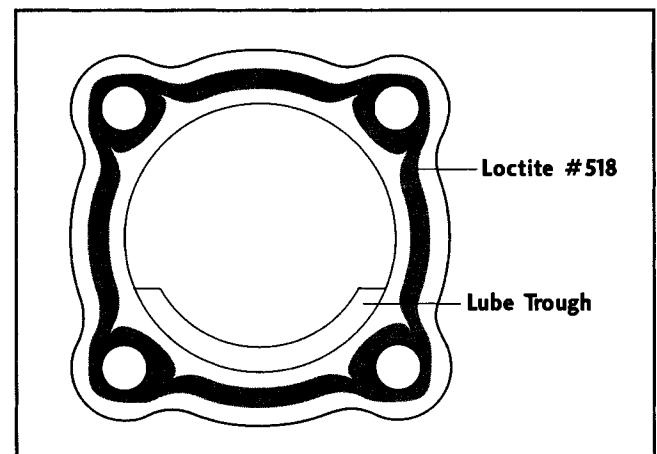

Figure 13
6. Clean mating surface on axle housing and output shaft bearing retainer. Apply a 1/16 in. bead of Loctite #518 gasket eliminator on housing mounting flange and around bolt holes. Install output shaft, with lube trough to bottom (See Figure 13). Tighten mounting bolts evenly to 30-40 Lb-Ft (41-55 N-m).